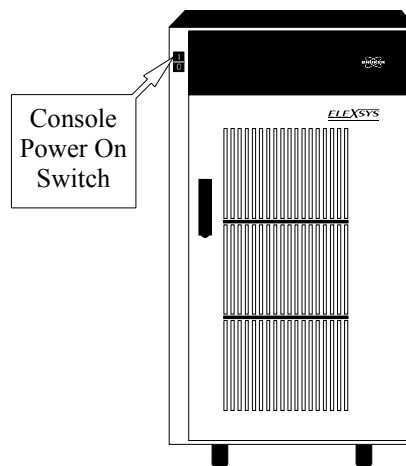

Figure 3-3 The location of the console power switch.
4. **Turn on the power for the console.** The power switch (green button) for the console is located in the upper left front corner of the console. (See Figure 3-3.) The acquisition server will boot and initialize all the modules of the Eleksys E 500 spectrometer. This process may take 30 seconds or longer: meanwhile you can continue with the next steps.